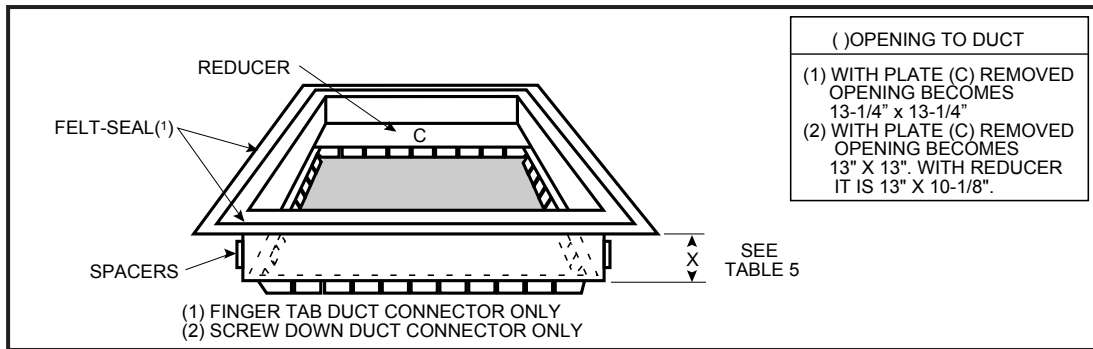

Figure 5. Duct Connector
- Select appropriate model from Table 5 which matches X-dimension of the floor cavity. To maximize air delivery, remove reducer "C" (see Figure 5) to obtain the largest open area that will fit the duct/floor construction.